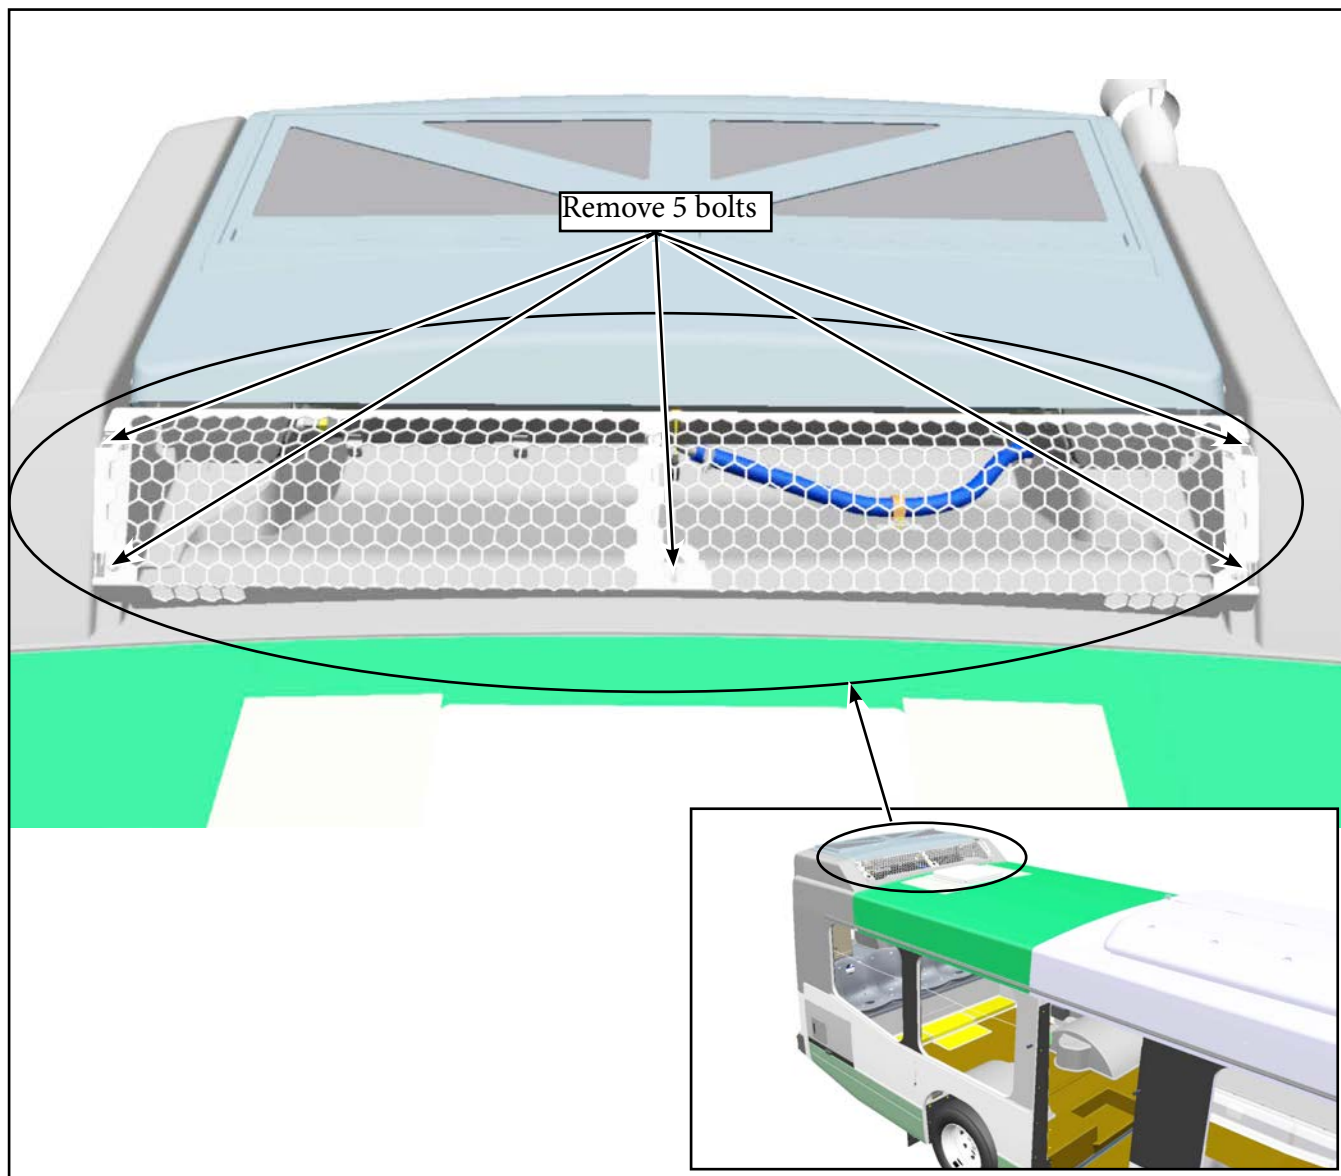

Figure 2 - Remove grill
- 1.4. Remove 5 bolts that secure the grill. Remove the grill (see Figure 2).